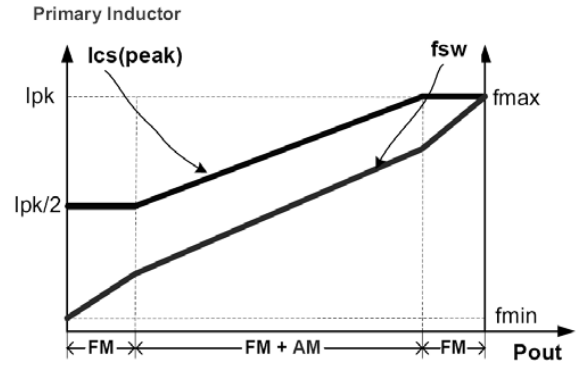

Fig.4
To meet the tight requirement of averaged system efficiency and no load power consumption, a hybrid of frequency modulation (FM) and amplitude shown in the Fig 4. Around the full load, the system operates in FM mode. When normal to light load conditions, the IC operates in FM+AM mode to achieve excellent regulation and high efficiency. When the system is near zero loading, the IC operates in FM again for standby power reduction. In this way, the no-load consumption can be less than 70mW.